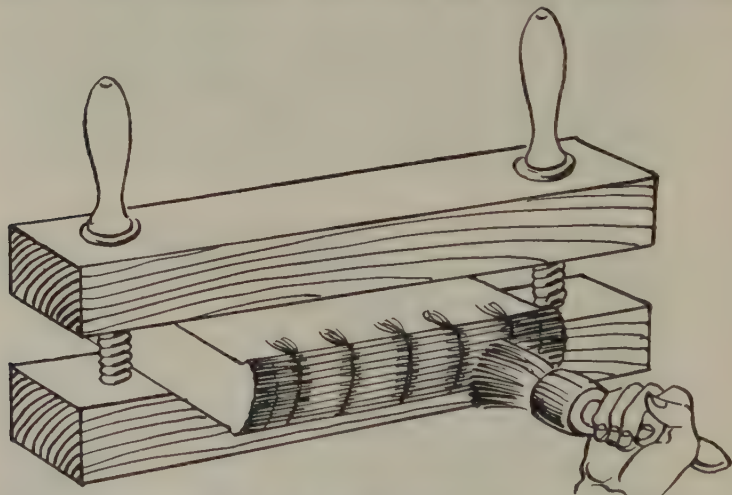

FIG. 209—GLUING-OFF BACK NEAR HEAD AND TAIL FOR AFFIXING HEADBANDS
3. Lay book in finisher's press again projecting about 1" above "cheeks" and tip press up on table so that book is horizontal and press vertical. (Fig. 209.)